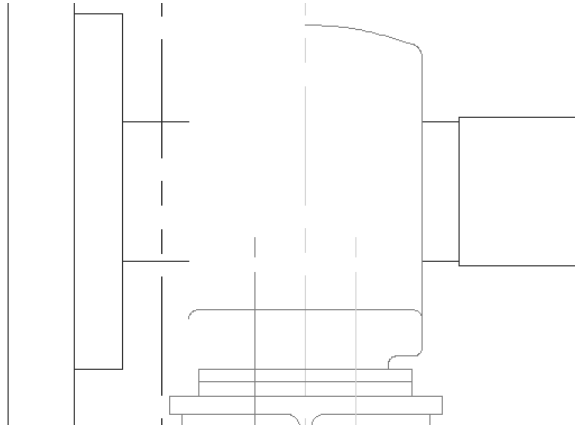

Figure 16-3: The completed polyline.
11. Save your drawing. It should look like Figure 16-3.